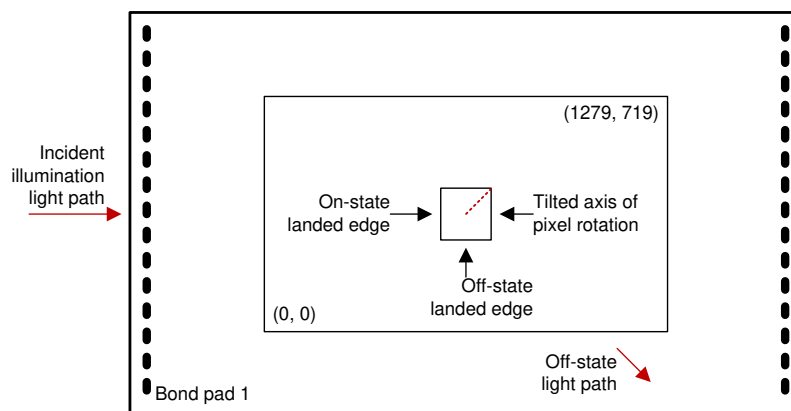

图 6-18. Landed Pixel Orientation and Tilt
- (1) Measured relative to the plane formed by the overall micromirror array.
- (2) Additional variation exists between the micromirror array and the package datums.
- (3) Represents the landed tilt angle variation relative to the nominal landed tilt angle.
- (4) Represents the variation that can occur between any two individual micromirrors, located on the same device or located on different devices.
- (5) For some applications, it is critical to account for the micromirror tilt angle variation in the overall system optical design. With some system optical designs, the micromirror tilt angle variation within a device may result in perceivable non-uniformities in the light field reflected from the micromirror array. With some system optical designs, the micromirror tilt angle variation between devices may result in colorimetry variations, system efficiency variations, or system contrast variations.
- (6) When the micromirror array is landed (not parked), the tilt direction of each individual micromirror is dictated by the binary contents of the CMOS memory cell associated with each individual micromirror. A binary value of 1 results in a micromirror landing in the ON state direction. A binary value of 0 results in a micromirror landing in the OFF state direction. See Figure 6-18.
- (7) Micromirror tilt direction is measured as in a typical polar coordinate system: Measuring counter-clockwise from a 0° reference which is aligned with the +X Cartesian axis.
- (8) The time required for a micromirror to nominally transition from one landed state to the opposite landed state.
- (9) The minimum time between successive transitions of a micromirror.
- (10) Conditions of Acceptance: All DMD image quality returns will be evaluated using the following projected image test conditions: